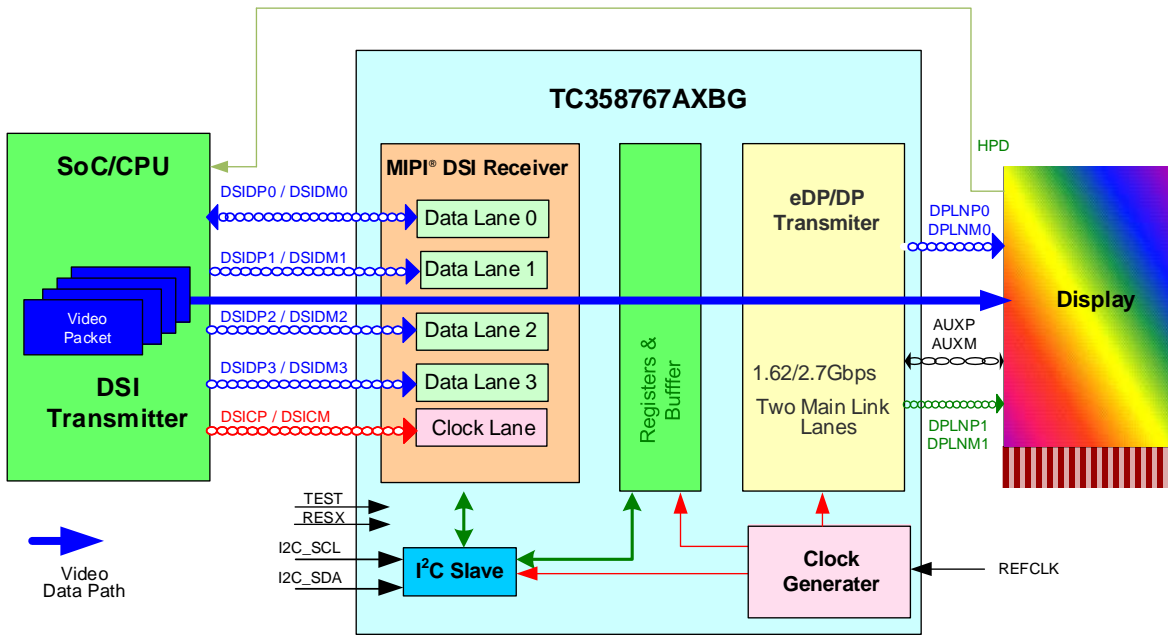

Figure 1.1 System Overview with TC358767AXBG in MODE_S21 Configuration
| Figure 1.1 System Overview with TC358767AXBG in MODE_S21 Configuration | 8 |
- **Mode_S21:** A system configuration where TC358767AXBG may typically be used is shown in Figure 1.1. In this configuration, the TC358767AXBG can support displays with resolution up to WUXGA (1920×1200) at 24bit, 60 fps or WUXGA (1920×1200) at 18bit, 60 fps. Video stream source is from DSI Host.